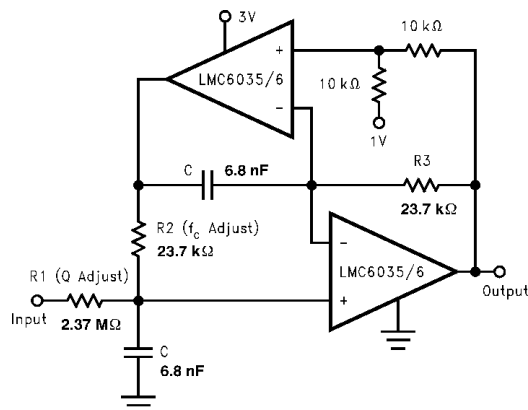

Figure 49. 2 Pole, 1kHz Active, Bandpass Filter
The dual amplifier bandpass (DABP) filter features the ability to independently adjust f_c and Q. In most other bandpass topologies, the f_c and Q adjustments interact with each other. The DABP filter also offers both low sensitivity to component values and high Qs. The following application of Figure 49, provides a 1kHz center frequency and a Q of 100.
1. First choose a center frequency (f_c). Figure 49 represents component values that were obtained from the following computation for a center frequency of 1kHz. $R_2 = R_3 = 1/(2\pi f_c C)$ Given: $f_c = 1\text{kHz}$ and C (chosen) = **6.8nF** $R_2 = R_3 = 1/(2\pi \times 1\text{kHz} \times 6.8\text{nF}) = 23.4\text{k}\Omega$